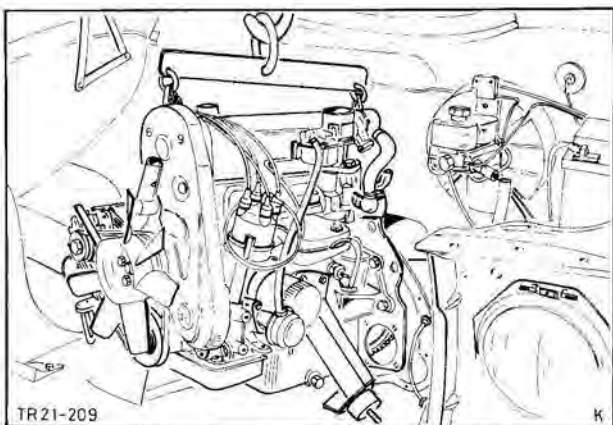

Fig. 18. Lift out engine with Special Tool 21-068
15. Support gearbox, move engine forwards with engine lifting gear and lift out of vehicle, Fig. 18.